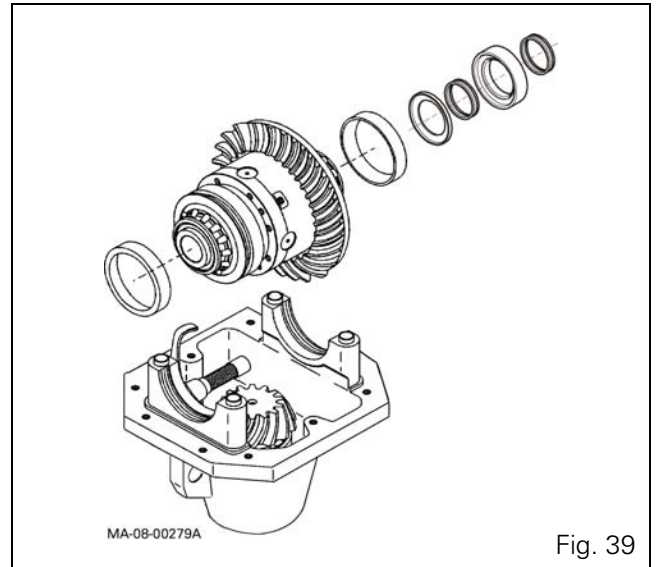

Fig. 39
51. Fit the external tapered roller bearing cups on the two differential bearings and install the washer and spacer on the crownwheel and pinion side with new seals, previously smeared with a thin layer of grease (Fig. 39).